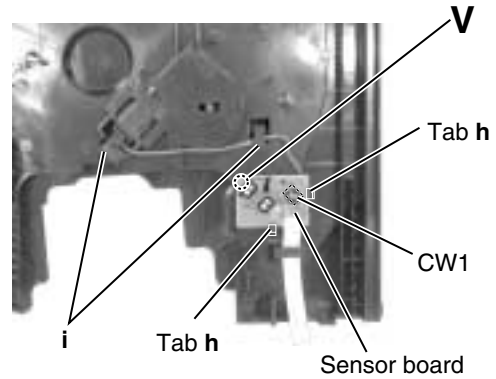

Fig.31
■Removing the sensor board / the turn table motor assembly (See Fig.31 to 33)